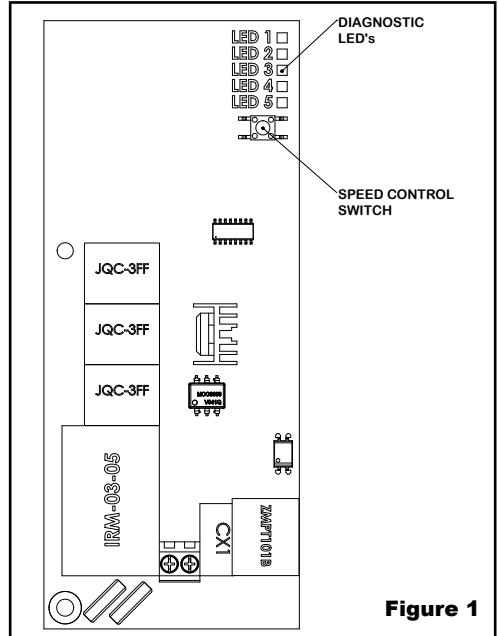

Figure 1
These models include adjustable blower speed control for (3) levels of operation – Hi, Med and Low. The switch is located on the printed circuit board inside the dryer as shown in Fig. 1 below.
3. Locate the switch on the printed circuit board as shown in Fig. 1 below, and adjust blower speed as desired. (Note: When Med or Low speed is selected, LED 3 on the printed circuit board will be lit). Reassemble the dryer cover using the security hex key supplied to turn the cover mounting screws **counter-clockwise** and tighten until snug. Do not over tighten.
The printed circuit board includes a set of LED's that indicate the operational status of the hand dryer. When contacting World Dryer Technical Service, be prepared to remove the dryer's cover and provide the condition of the LED's as this can be helpful in troubleshooting the dryer. See Figure 1 for location of diagnostic LED's on the printed circuit board. See Table 4 for an explanation of LED function.